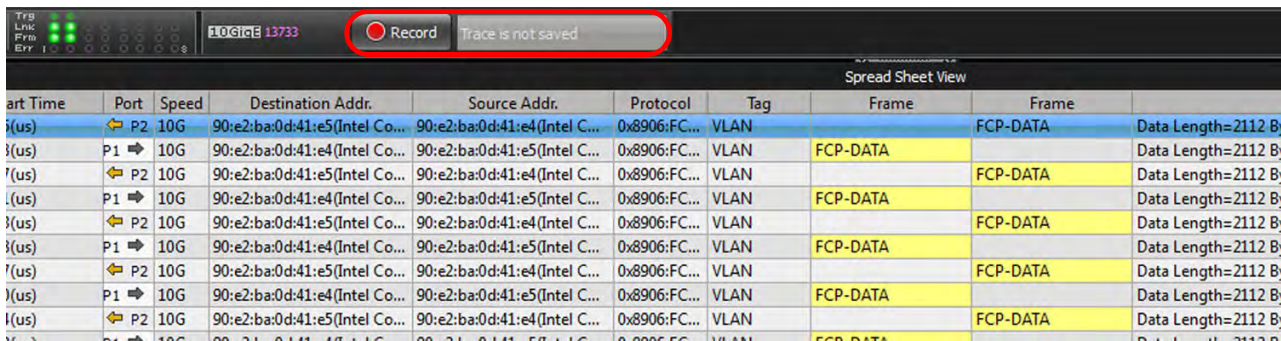

Figure 4.54: SSP Trace Data has not been Saved to Host Memory
- ❑ After the data is Indexed, the Record button turns on, but the Session Status Panel says Trace is not Saved (Figure 4.54). When “Trace is Not Saved” is displayed, this means that the trace is opened for viewing in Quick View mode, but it has not been saved to disk.